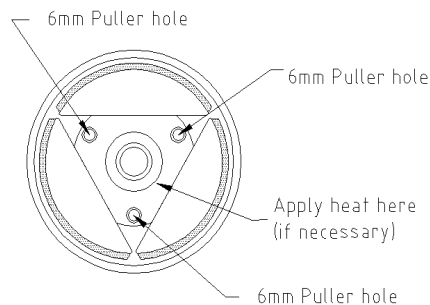

Figure 1
3. Attach the Universal Puller. There are three 6mm clutch puller holes located on the ends of the center hub. (figures 1 & 2) You must use a *draw type puller* to remove the clutch.